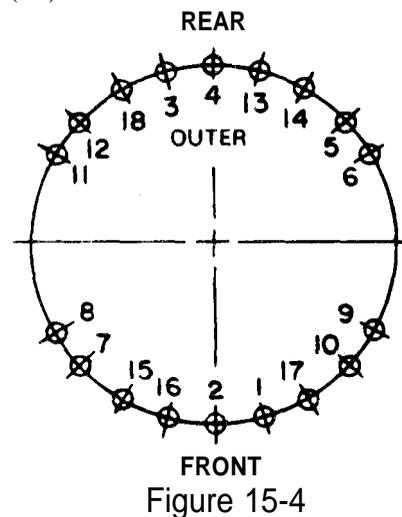

Figure 15-4
4. Install 10 capscrews (7) and 20 washers (8) on inside of upperstructure(11, Figure 15-2). Torque both inside and outside capscrews to 722 lb-ft (979 N•m) in sequence shown in Figure 15-4.